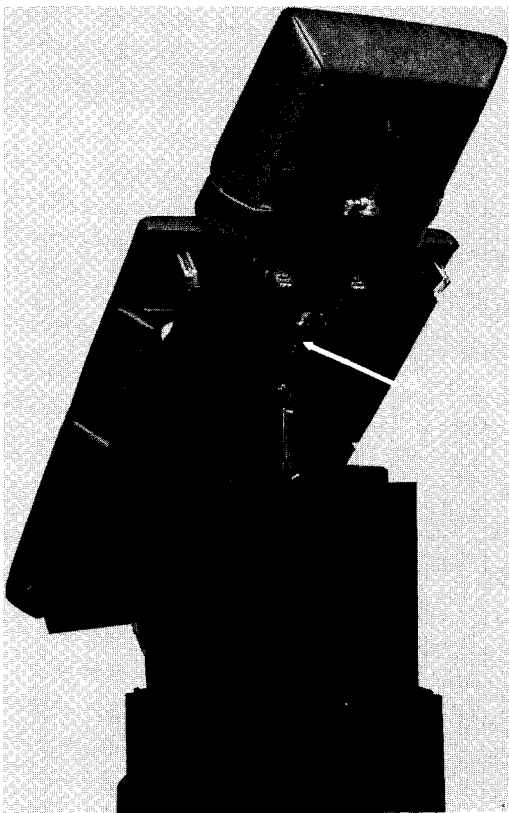

Fig. 20
- 3) Raise the table in a full tilt position and remove hose clamp, (Item A, Fig. 20) from under seat section.
- 7) Remove wire and hose clamp, (Item A, Fig. 20).
- 27) Connect hose clamp to underside of seat section, (Item A, Fig. 20).